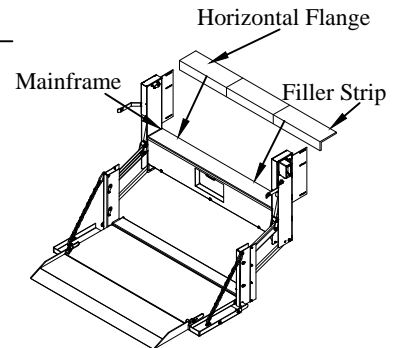

Figure 6: Filler strip location.
1. **Arrange** the three (3) filler strips along the top corner of the liftgate mainframe (Figure 6).